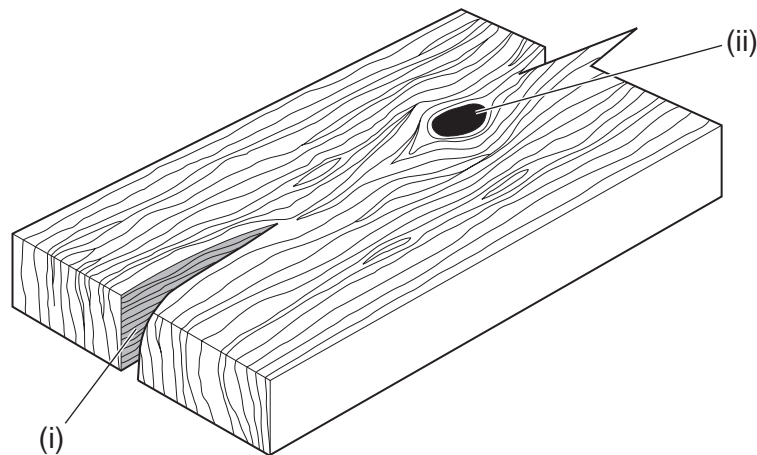

Fig. 5
- 6 Defects occur in boards. Two defects are shown in Fig. 5.